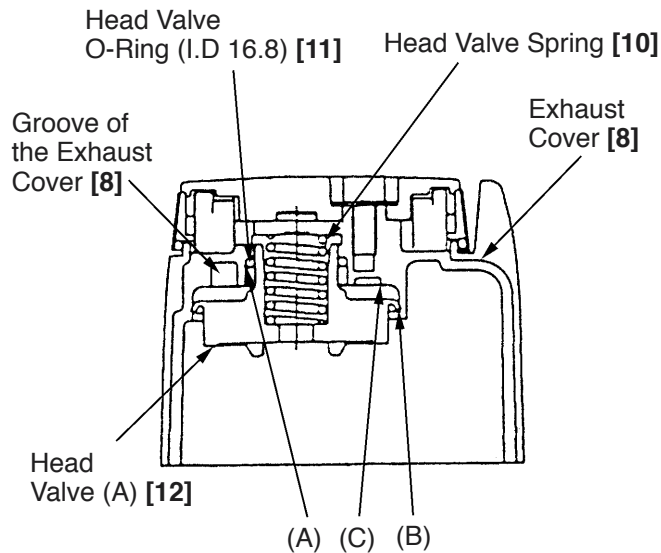

Fig. 13
- Before reassembly, apply grease to the sliding portion (A) of the Exhaust Cover [8] and Head Valve (A) [12], lip portions (B) and (C) of Head Valve (A) [12], and charge about 0.5 g of grease into the groove of the Exhaust Cover [8] (Fig. 13). Push Head Valve (A) [12] in the Exhaust Cover [8] together with the Head Valve O-Ring (I.D 16.8) [11].